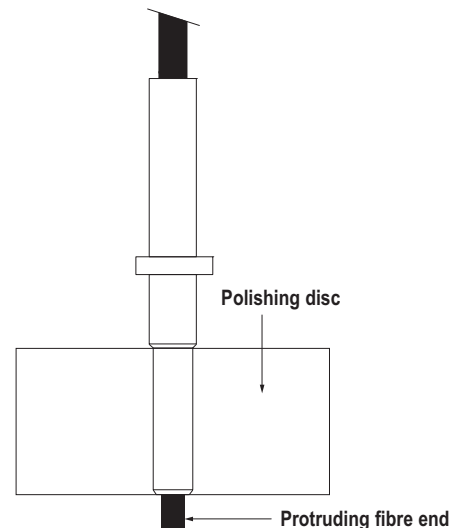

Fig. 6 - Polishing Disc with Guide for Connector Sleeve
- Insert the contact into the polishing disc (**CLDL**) as shown in Figure 6.